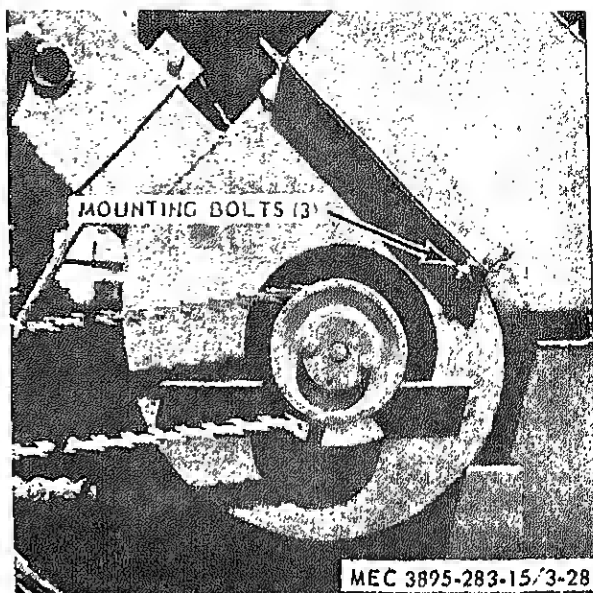

Figure 3-28. Blower Removal.
- (1) Remove asphalt tank burner (para 3-49).
- (2) Remove drive belt.
- (3) Remove three screws mounting blower assembly (fig. 3-28).
- (4) Pull blower away.